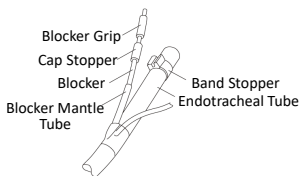

Fig.6
1. Move the cap stopper and rotate (if necessary) and mount it on to the blocker mantle tube (Fig.6).